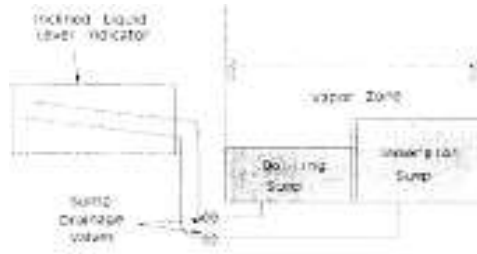

Figure 307-2. Solvent Cleaner Test Setup.
3.1 Connection of the Inclined Liquid Level Indicator. Connect one of the inclined liquid level indicators to the boiling sump drain and the other inclined liquid level indicator to the immersion sump drain using Teflon tubing and the appropriate fittings. A schematic diagram is shown in figure 307-2.